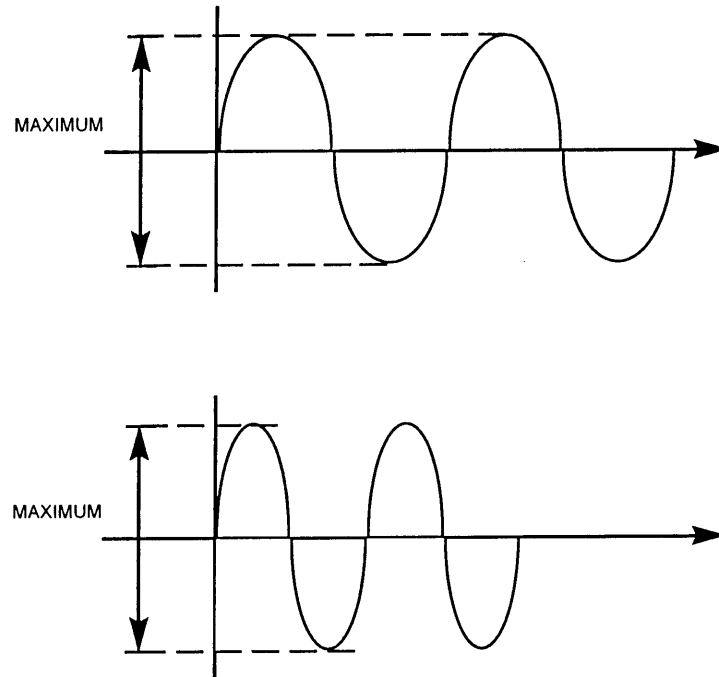

FIG.17
3. Adjust T001, VR001 and VR003 to obtain a maximum amplitude as Fig.17.